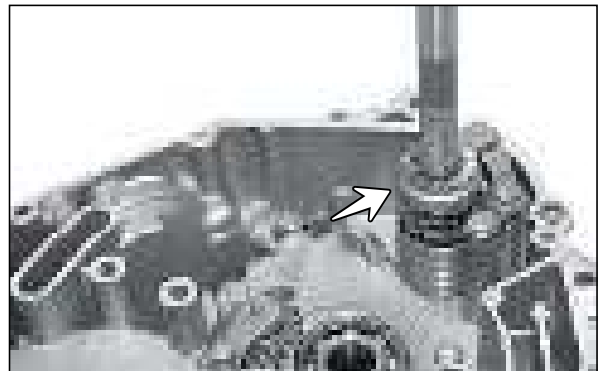

Fig. 3.161
- Take out starter kick and spring kick starter from the shaft kick starter. (Fig. 3.161)